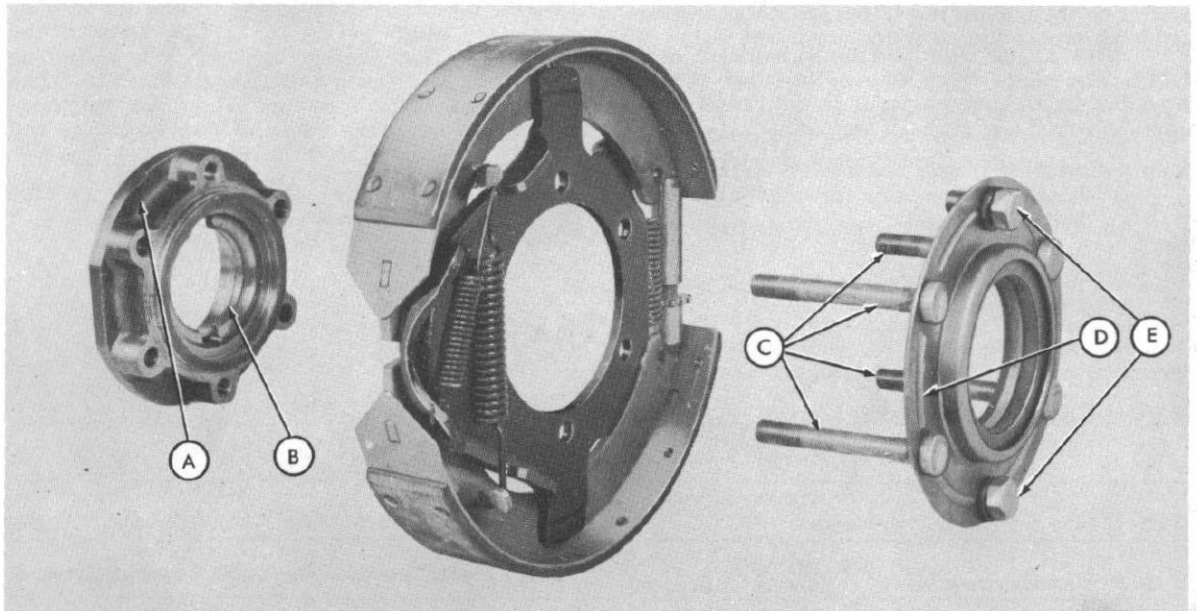
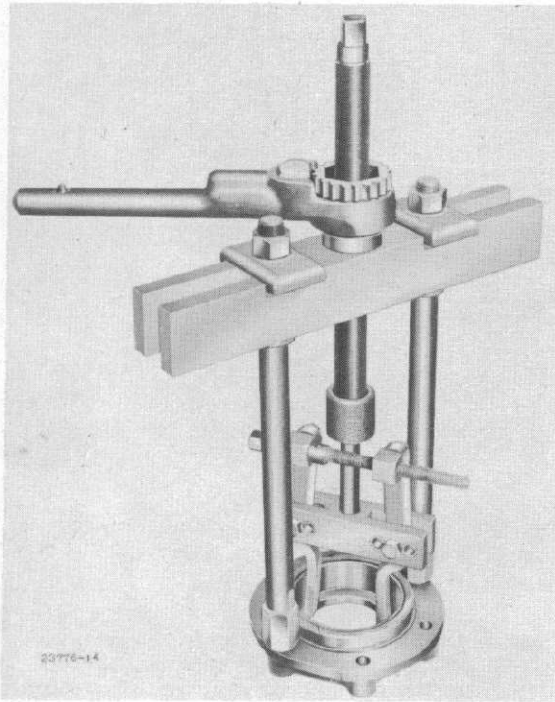

Fig. 5
Fig. 6
Step 1—Remove the two cap screws (E-Figure 5) that hold the oil seal assembly (D-Figure 5) to the rear axle shaft bearing retainer and cup assembly (A-Figure 5).
Step 2—Remove the oil seal assembly (D-Figure 5).
- a. With a soft face mallet drive the long bolts (C-Figure 5) out of the retainer and seal assembly.
Step 4—Remove the bearing cup (B-Figure 5) as shown in Figure 6.